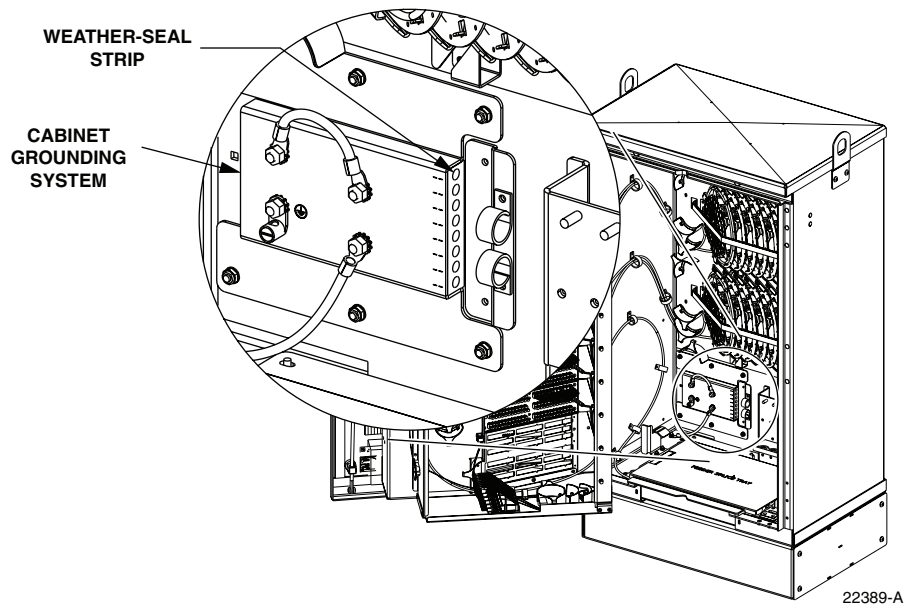

Figure 19. Cable Grounding System - Interior View
2. Locate the weather-seal strip attached to the right side of the cabinet grounding system as shown in Figure 19.